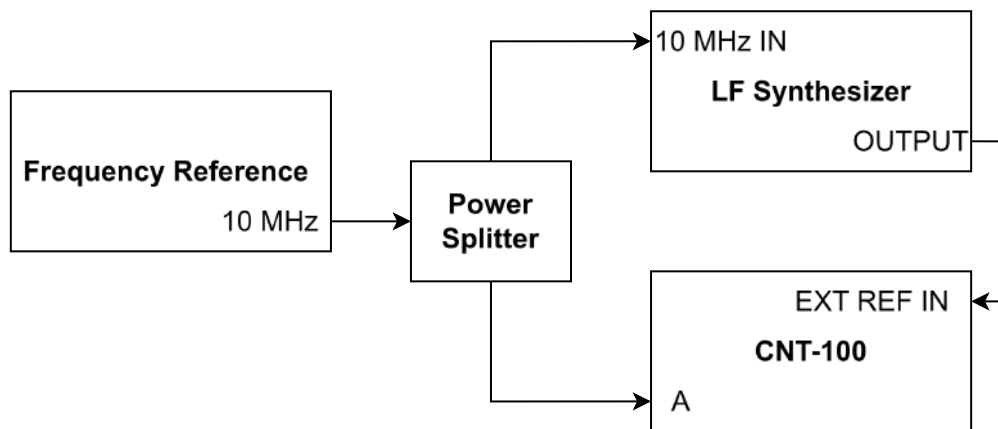

Fig. 9.6: External Reference Input test setup
- Make connections according to Fig. 9.6.